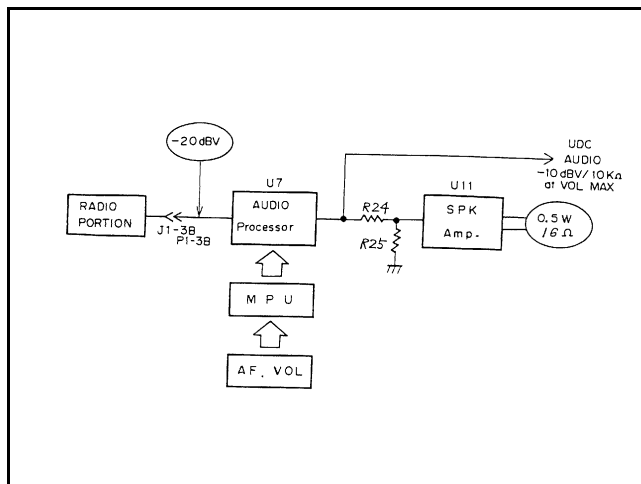

Figure 6 - Receive Audio Output
- b. Control Board: The receive RF signal comes into P1, Pin 3B. The signal is then applied through a 14dB amplifier, 300-3000Hz BPF, De-emphasis and a 44 dB volume level control. The signal is then amplified by SPK amplifier U11 to drive the speaker. Typical levels needed to obtain a 1 kHz, 0.5 watt receive rated audio output are shown in Figure 6.